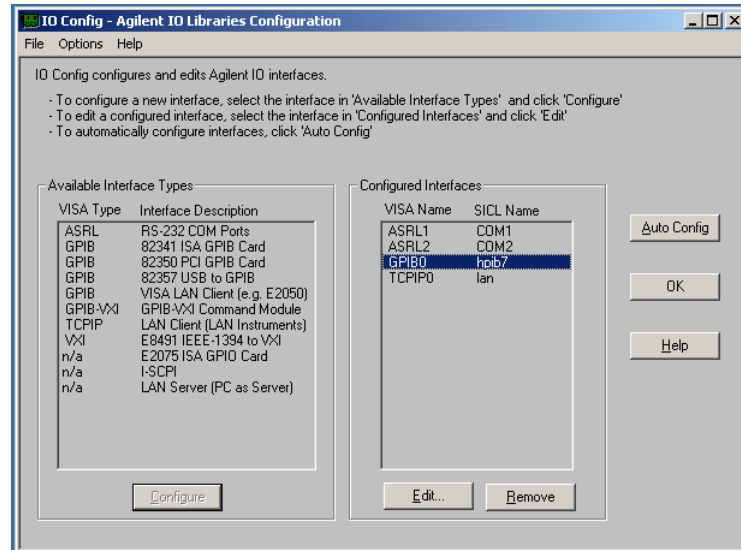

Figure 1-7 I/O Config Screen
- 4 When the **I/O Config** screen appears, select **Auto Config**. This action adds all configured interfaces. See Figure 1-7.
- 5 When **Auto Config** completes, select GPIB0 in the **Configured Interfaces** field. Then press **Edit** at the bottom of the field. See Figure 1-7. The **82350 PCI GPIB Card Configuration** dialog appears.